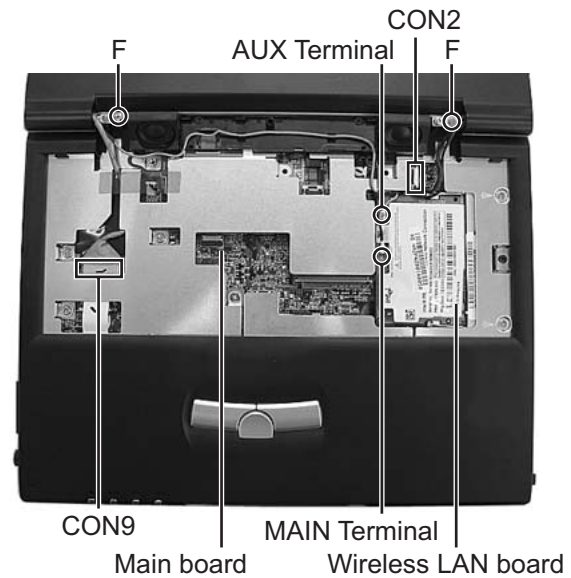
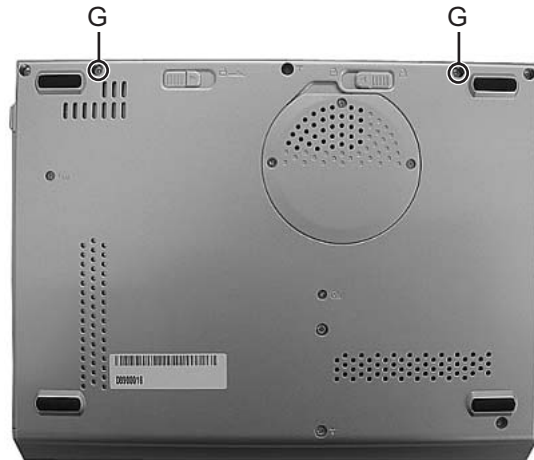

Fig.10
Fig.11
3.1.6 Removing LCD panel assembly(See Figure 10 and Figure 11)